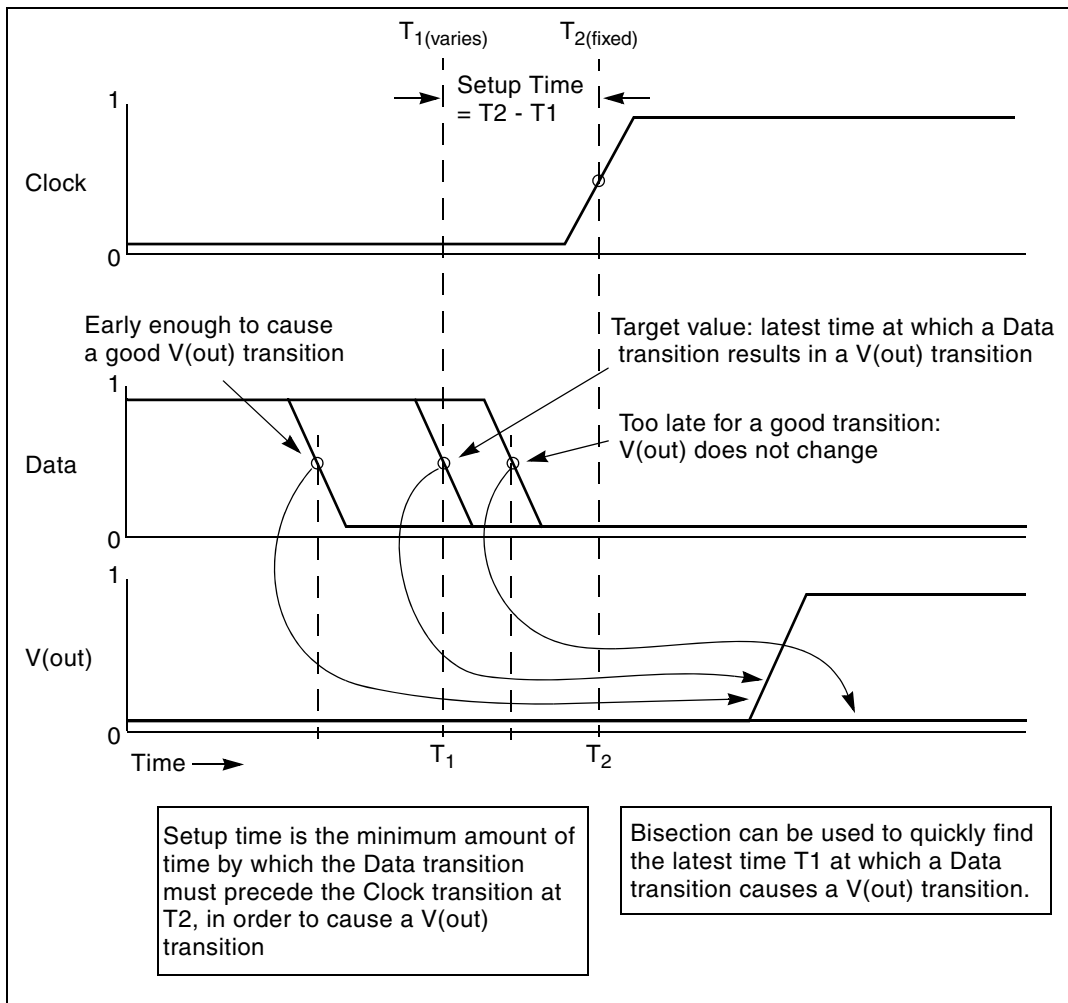
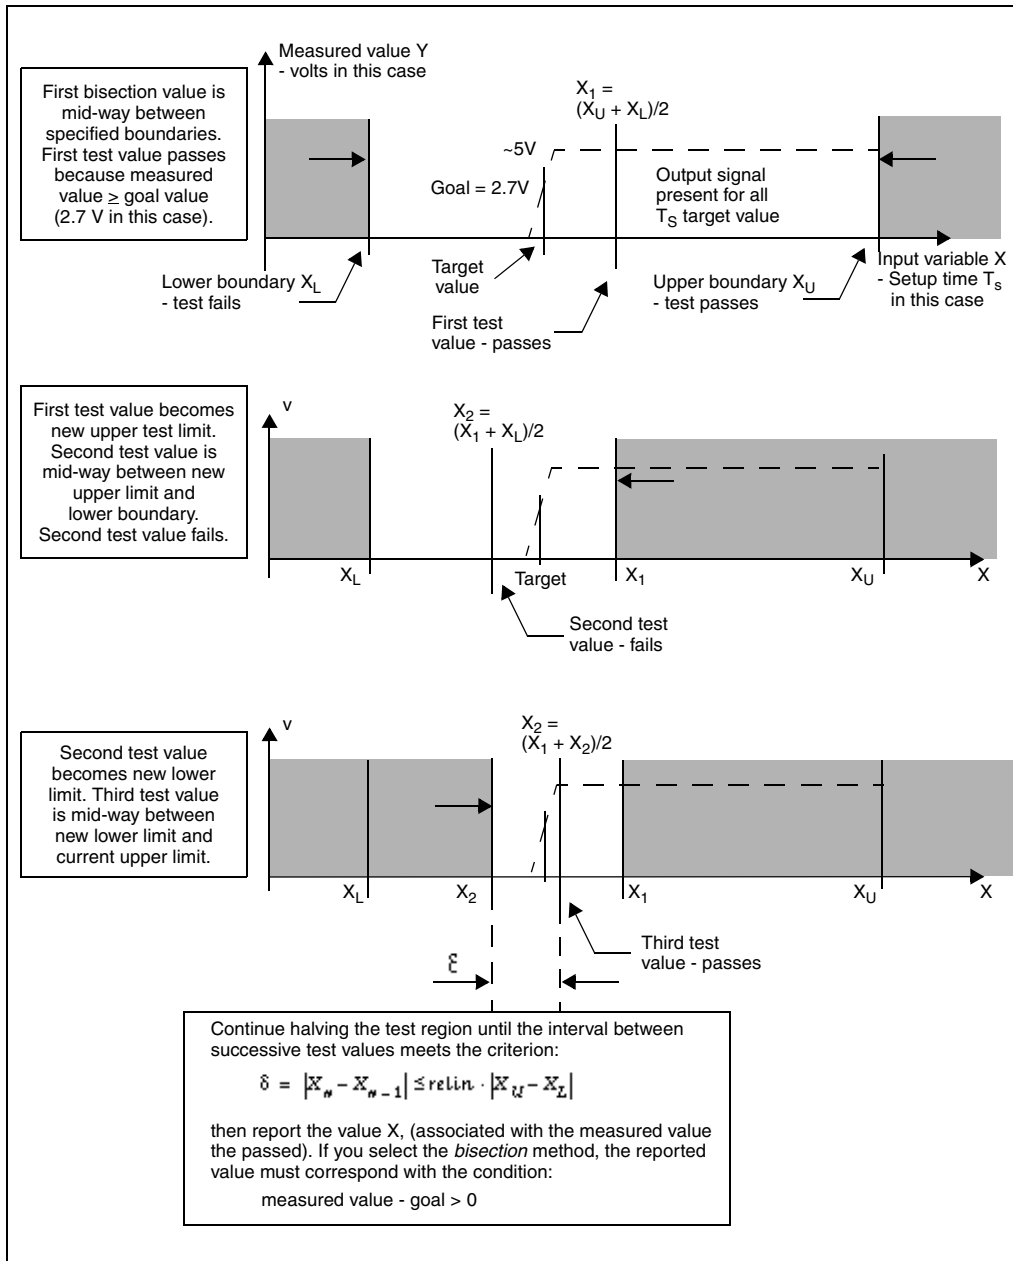
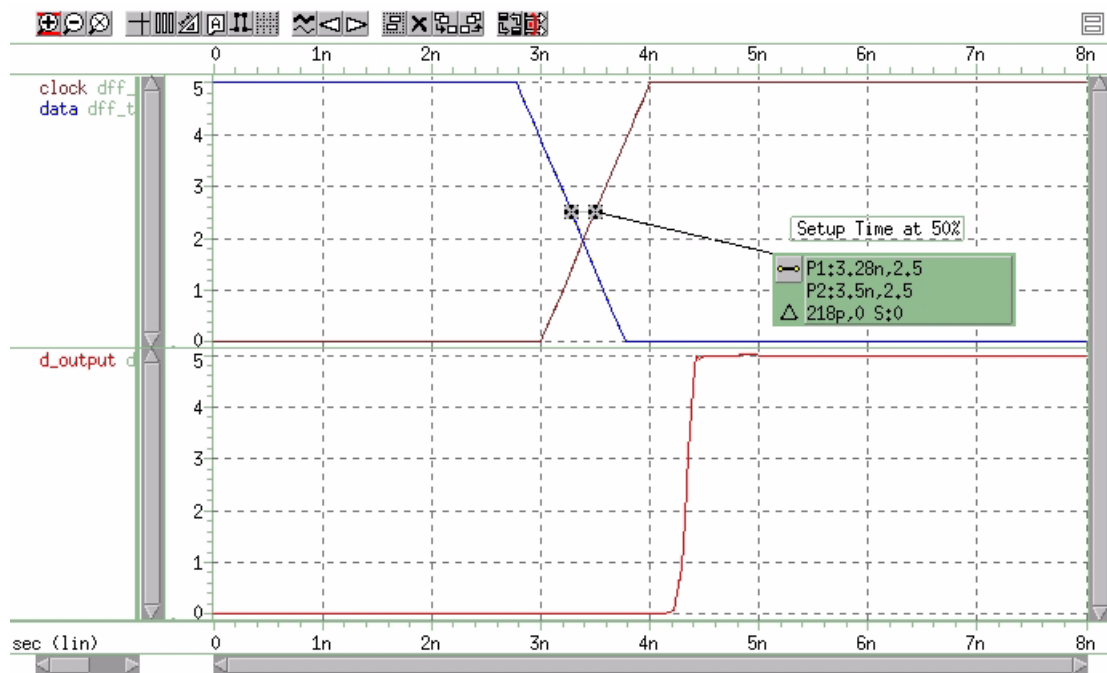

Figure 87 Determining Setup Time with Bisection Violation Analysis
Figure 88 Bisection Example for Three Iterations
Figure 89 Transition at Minimum Setup Time
Figure 87 on page 497 shows a typical analysis of setup-time constraints. Clock and data input waveforms drive a cell. Two input transitions (rise and fall) occur at times T_1 and T_2 . The result is an output transition, when $V(\text{out})$ changes from low to high. The following relationship between the T_1 (data) and T_2 (clock) times must be true for the $V(\text{out})$ transition to occur: $T_2 > (T_1 + \text{setup time})$.
- Automatically varying the input parameter (T_1 in Figure 87 on page 497) to find the value for which the transition barely occurs.
Figure 88 on page 504 shows an example of the binary search process that the bisection algorithm uses. This example is the pass/fail type, and is appropriate for a setup-time analysis that tests for the presence of an output transition. In the example depicted in Figure 87 on page 497 note that:
4. The bisection algorithm performs tests for each specified boundary value to determine the direction in which to pursue the target value, after the first bisection. In this example shown in Figure 87 on page 497, the upper boundary has a pass value and the lower boundary has a fail value.
5. To start the binary search you specify the lower and upper boundaries. The program tests the point midway between the lower and upper boundaries (see Figure 88 on page 504).
Figure 88 on page 504 and Figure 89 on page 505 show the results of this demo. HSPICE or HSPICE RF does not directly optimize the setup time, but extracts it from its relationship with the `DelayTime` parameter (the time before the data signal), which is the parameter to optimize.
The top plot in Figure 89 shows the relationship between the clock and the data pulses that determine the setup time. The bottom plot is the output transition.